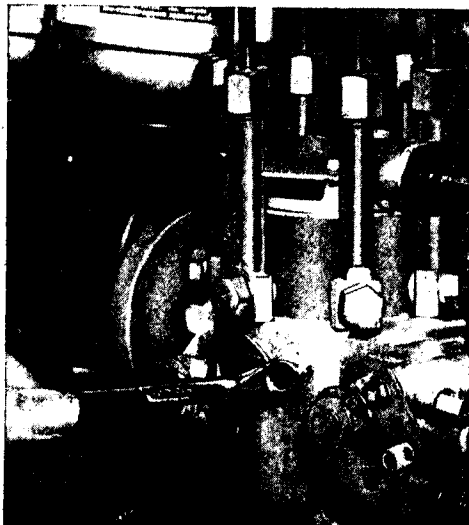

Fig. M.16
2. Slacken the vent valve fitted on one of the two hydraulic head locking screws (see Fig. M.16).